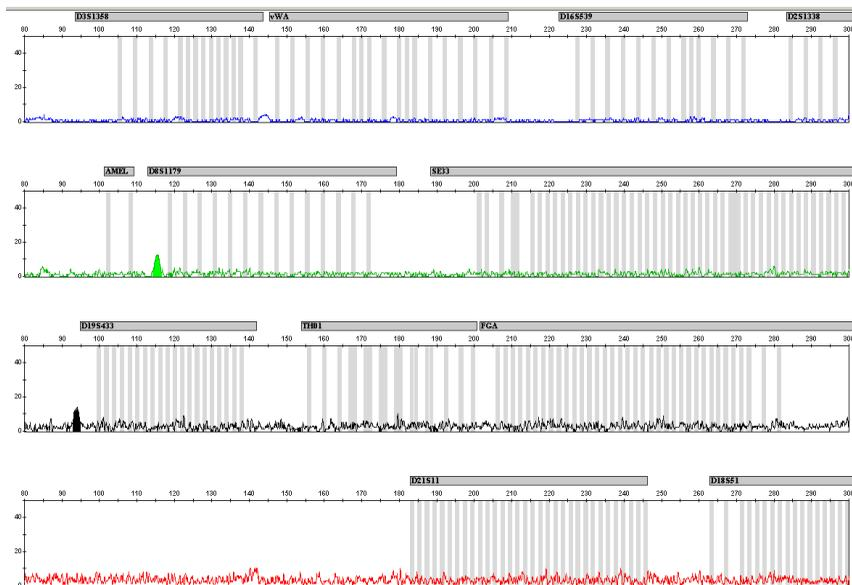
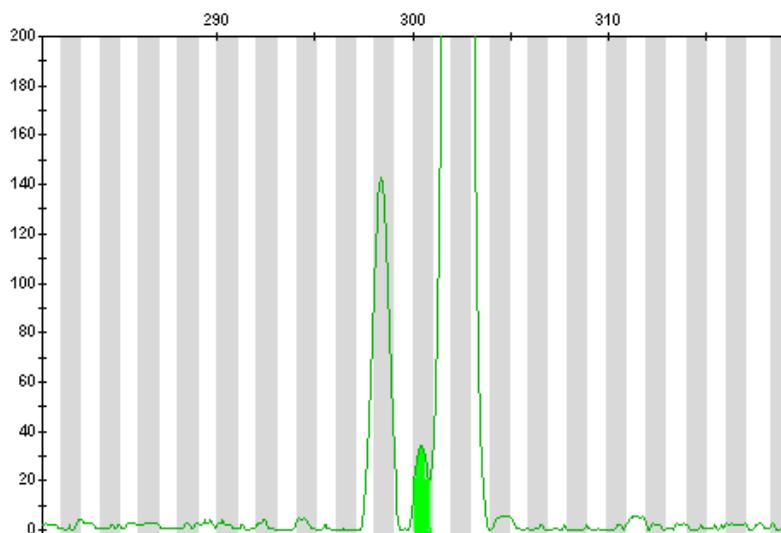

Figure 5-10 Examples of baseline noise and reproducible artifacts in data produced on the Applied Biosystems 3130x/ Genetic Analyzer, Y-axis scale (0–50 RFUs)
Figure 5-11 Examples of a -2 nt reproducible artifact in the SE33 locus. Data produced on the Applied Biosystems 3130x/ Genetic Analyzer
Figure 5-10 on page 5-28 and Figure 5-11 on page 5-29 show examples of baseline noise and artifacts in an electropherogram while using the SEfiler Plus kit. Genotyping may result in the detection of these artifacts as off-ladder (OL) alleles. This occurs if the recommended amount of input DNA is exceeded and off-scale data are obtained. You should consider possible noise and artifacts when interpreting data from the SEfiler Plus kit on the Applied Biosystems 3130/3130*xl*, ABI PRISM® 3100/3100-*Avant*, and ABI PRISM® 310 Genetic Analyzers.
Note that a high degree of magnification (y-axis) is used in Figure 5-10 on page 5-28 and Figure 5-11 on page 5-29 to show the artifacts.